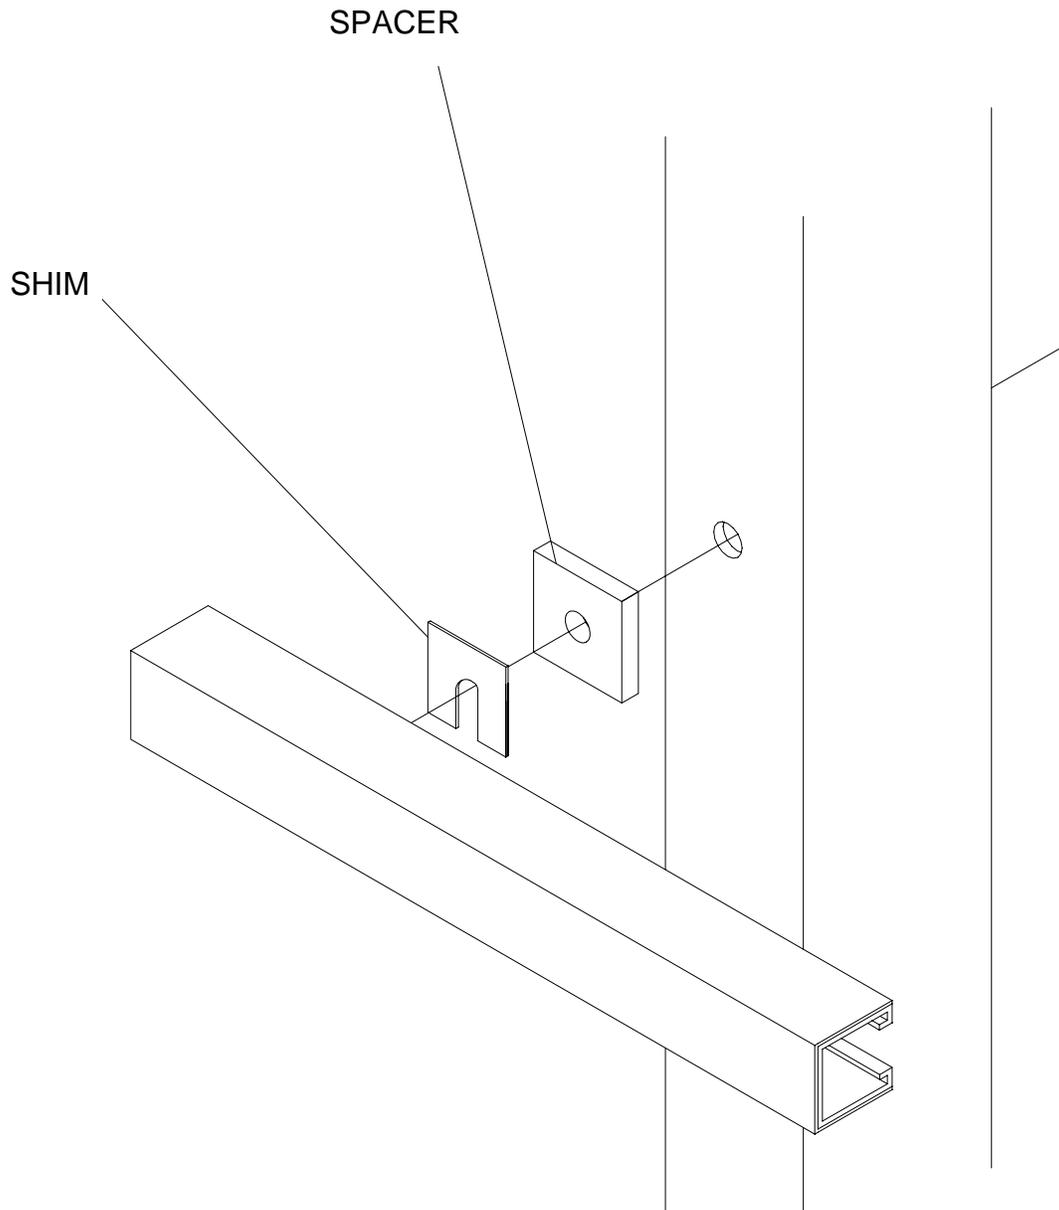
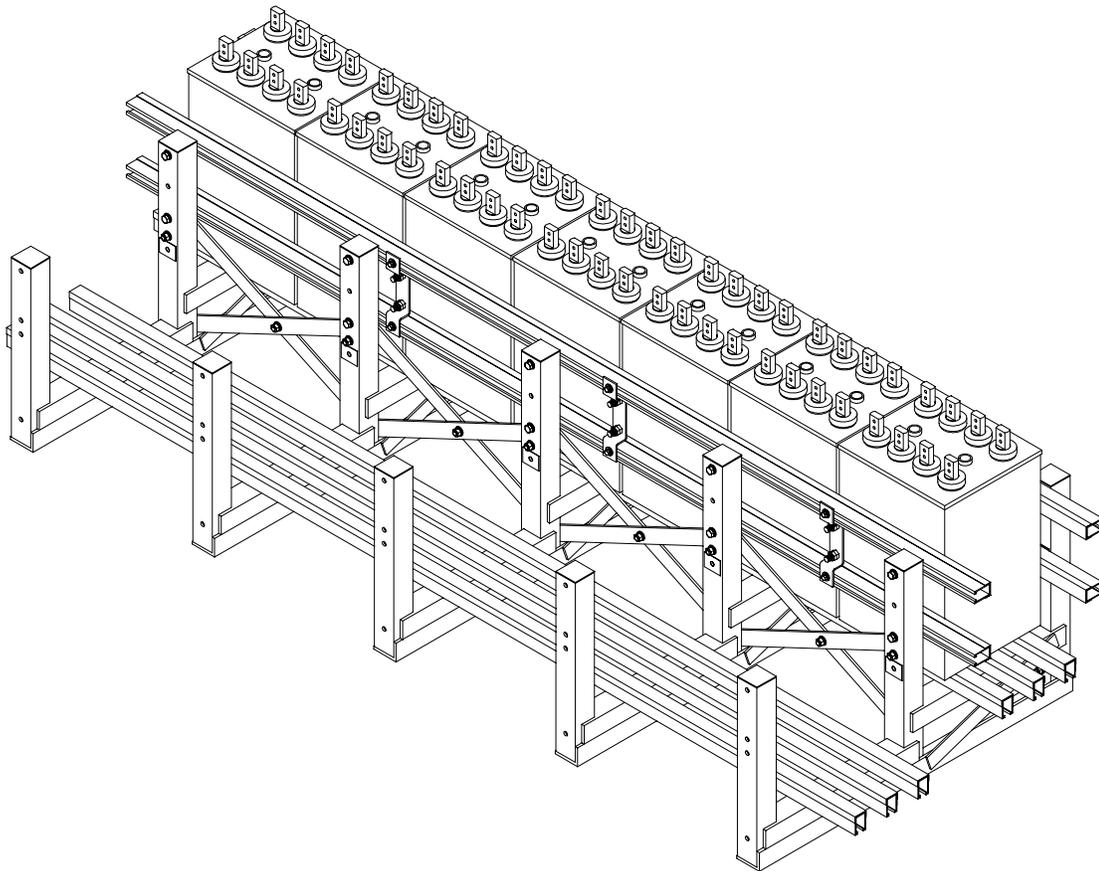

Figure 7.3c
Figure 7.5c
- Side rail spacer(s) may need to be installed with side support rail. Refer to assembly drawing for spacer application and Figure 7.3c.
- Install cell clamp assemblies on 2 step rack. Verify cell clamp locations as shown on the rack assembly drawing. Attach cell clamps to side support rails. See Figure 7.5c. Refer to assembly drawing for hardware size and length. Torque per Table 1.
- Attach plastic channel to front side rail(s) per Section 7.4 and install front side rail(s) as instructed in Section 7.3. See Figures 7.5c and 7.5d. Install shim(s) as necessary between side rails and rack frame to ensure proper side rail fit with battery jars. See to Figure 7.3c. The side rail bolts may need to be loosened to perform this step, be sure to re-torque per Table 1 when complete.